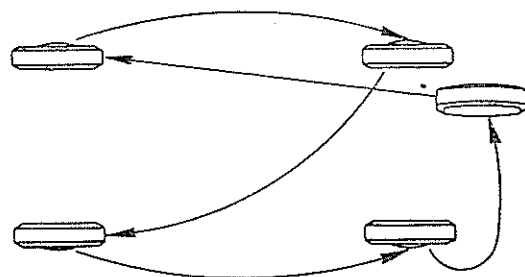

Fig. 9. Tyre Interchanging Order
2. Inspect the tyres. If the tread is worn unevenly, find out and eliminate the cause of trouble. Interchange the tyres together with wheels as shown in Fig. 9.